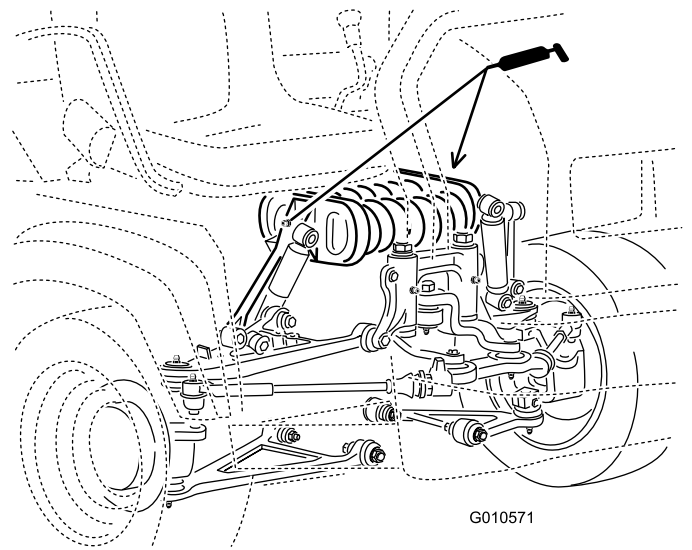

Figure 42
- Spring tower (2) (Figure 42)